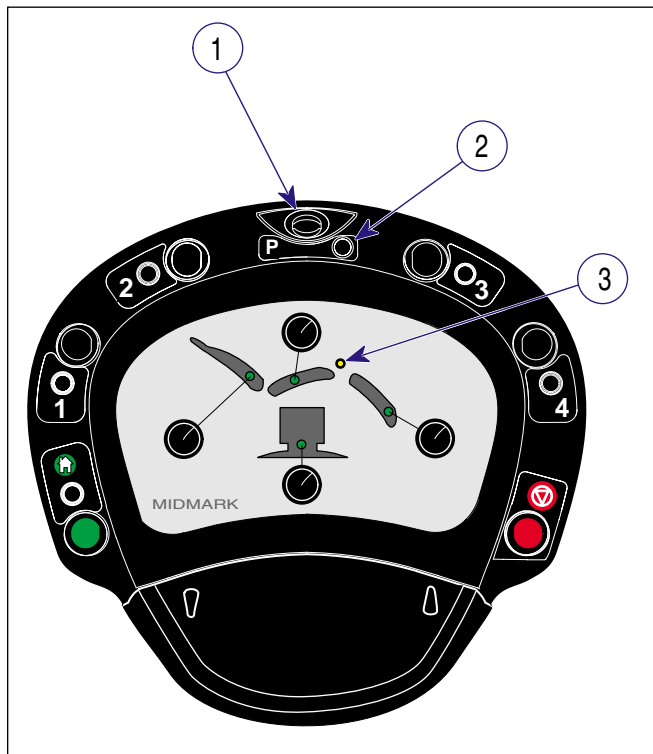

Figure 4-1. Clearing PC Control Board Memory
- (1) Unplug table power cord from outlet receptacle for at least ten seconds.
- (2) Depress and hold the PROGRAM button (1, Figure 4-1) while simultaneously plugging the table power cord into the outlet receptacle.